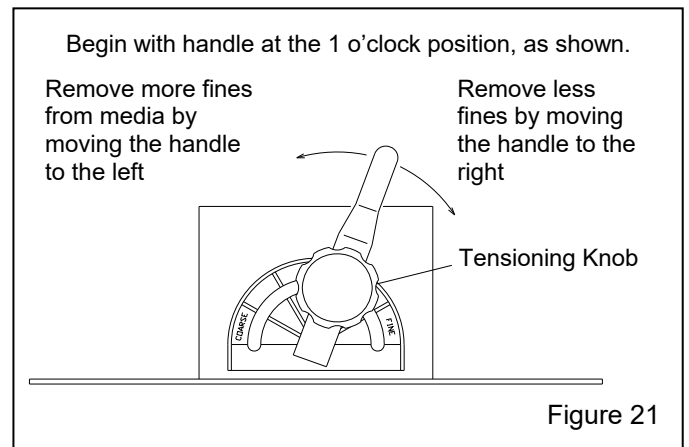

Figure 21
**5.5.1** The vortex cylinder is located atop the reclaimer where the flex hose connects. Adjustments are made by loosening the handle's tensioning knob and moving the handle to achieve the correct setting. When the correct setting is established, tighten the locking knob to prevent movement. Start with the lever slightly to the right (about 1 o'clock, as shown in Figure 21) of the vertical position.